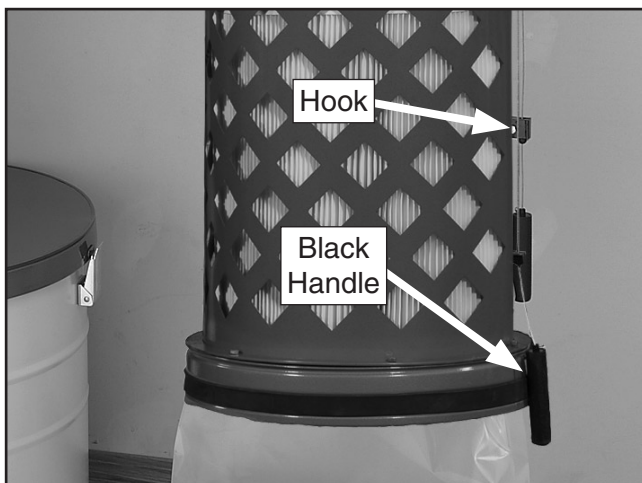

Figure 63. Black handle cable secured in the handle hook.
3. Pull the black handle all the way down and secure the cable into the handle hook at the bottom of the canister assembly, as shown in **Figure 63**, to hold it in place during the following steps.